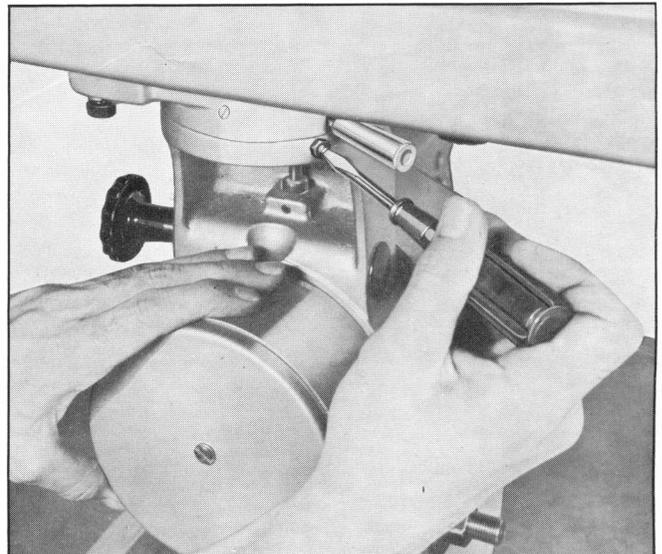

Fig. 25
- (A) Loosen yoke swivel lock handle.
- (B) Loosen lock nut in fig. 25.
- (C) Turn adjusting screw in fig 25, in or out while holding motor under slight pressure against stop.
- (D) When measurement of fence to same tooth in both positions are the same relock the screw with lock nut while holding set screw with screw driver.